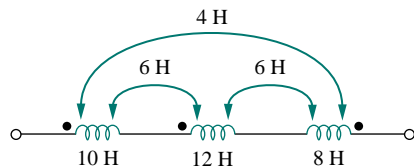

Figure 13.73 For Prob. 13.2.
- 13.2** Determine the inductance of the three series-connected inductors of Fig. 13.73.